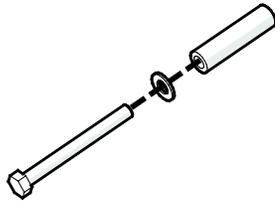

Figure 2
2. Slide one washer **5** and one sleeve **4** over a bolt **3** and insert it into the screw hole on the inside of the right-hand side arm (see Figure 2).